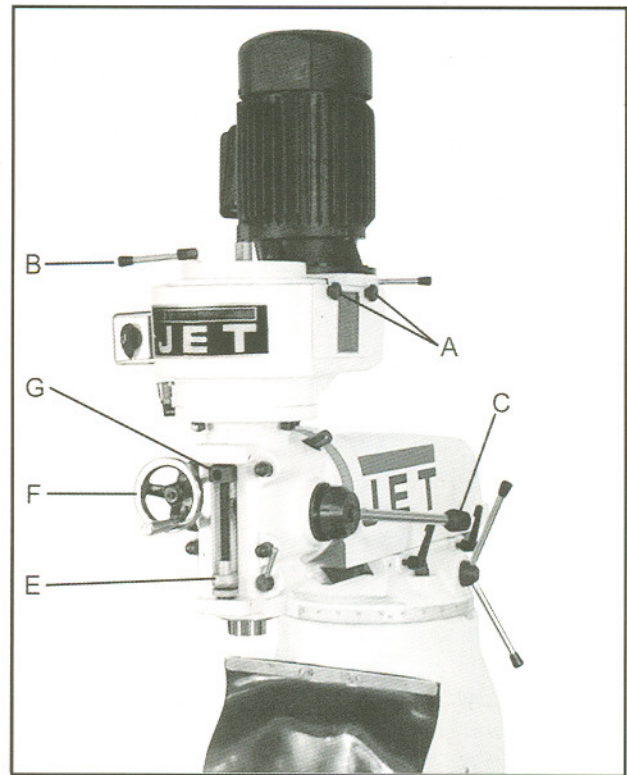
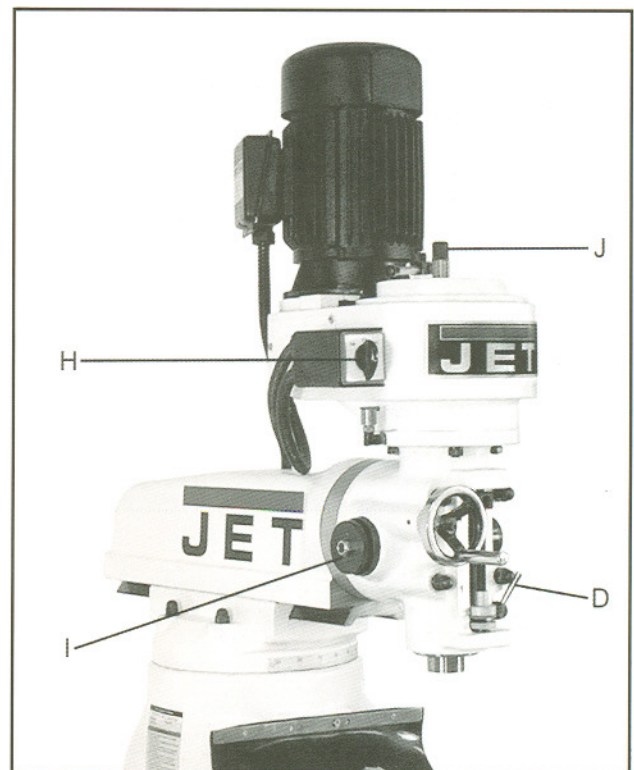

Fig. 4
Fig. 5
- A. **Belt Cover Lock Knobs** (A, Fig. 4) located on the right side of the head. Loosen and remove belt cover to change belt position on the pulleys.
- B. **Spindle Brake** (B, Fig. 4) located on left side of the head. Move in either direction to stop spindle once power has been turned off.
- C. **Quill Feed Handle** (C, Fig. 4) located on the right side of the head. Rotate counter-clockwise to lower spindle. Return spring will retract the spindle automatically once the handle is released.
- D. **Quill Lock** (D, Fig. 5) located on the right side of the head. Rotate the handle clockwise to lock the quill in a desired position. Rotate the handle counter-clockwise to release.
- E. **Micrometer Adjusting Nut** (E, Fig. 4) located on the front of the head. Use for setting specific spindle depth.
- F. **Manual Fine Feed** (F, Fig. 4) located on the left side of the head. Must engage fine feed (I, Fig. 5) for handwheel to function.
- G. **Quill Stop** (G, Fig. 4) located on the front of the head. Used in conjunction with micrometer adjusting nut for predetermined depth.
- H. **Reversing Switch** (H, Fig. 5) located on the left side of the head. Switches rotation of spindle. For 3 Ph motor there is an additional low and high-speed option.
- I. **Fine Feed Engagement** (I, Fig. 5) located on the left side of the head. Turn clockwise until tight. This engages the manual fine feed.
- J. **Draw Bar** (J, Fig. 5) located on the top of the head. This is used to tighten a R-8 collet or R-8 tool into the quill. Tighten draw bar enough to hold tool securely during milling operations.
1. Unscrew two knobs (A, Fig. 4) and remove belt cover.
**Note:** The 3 Ph motor has an additional low and high-speed setting (H, Fig.5).